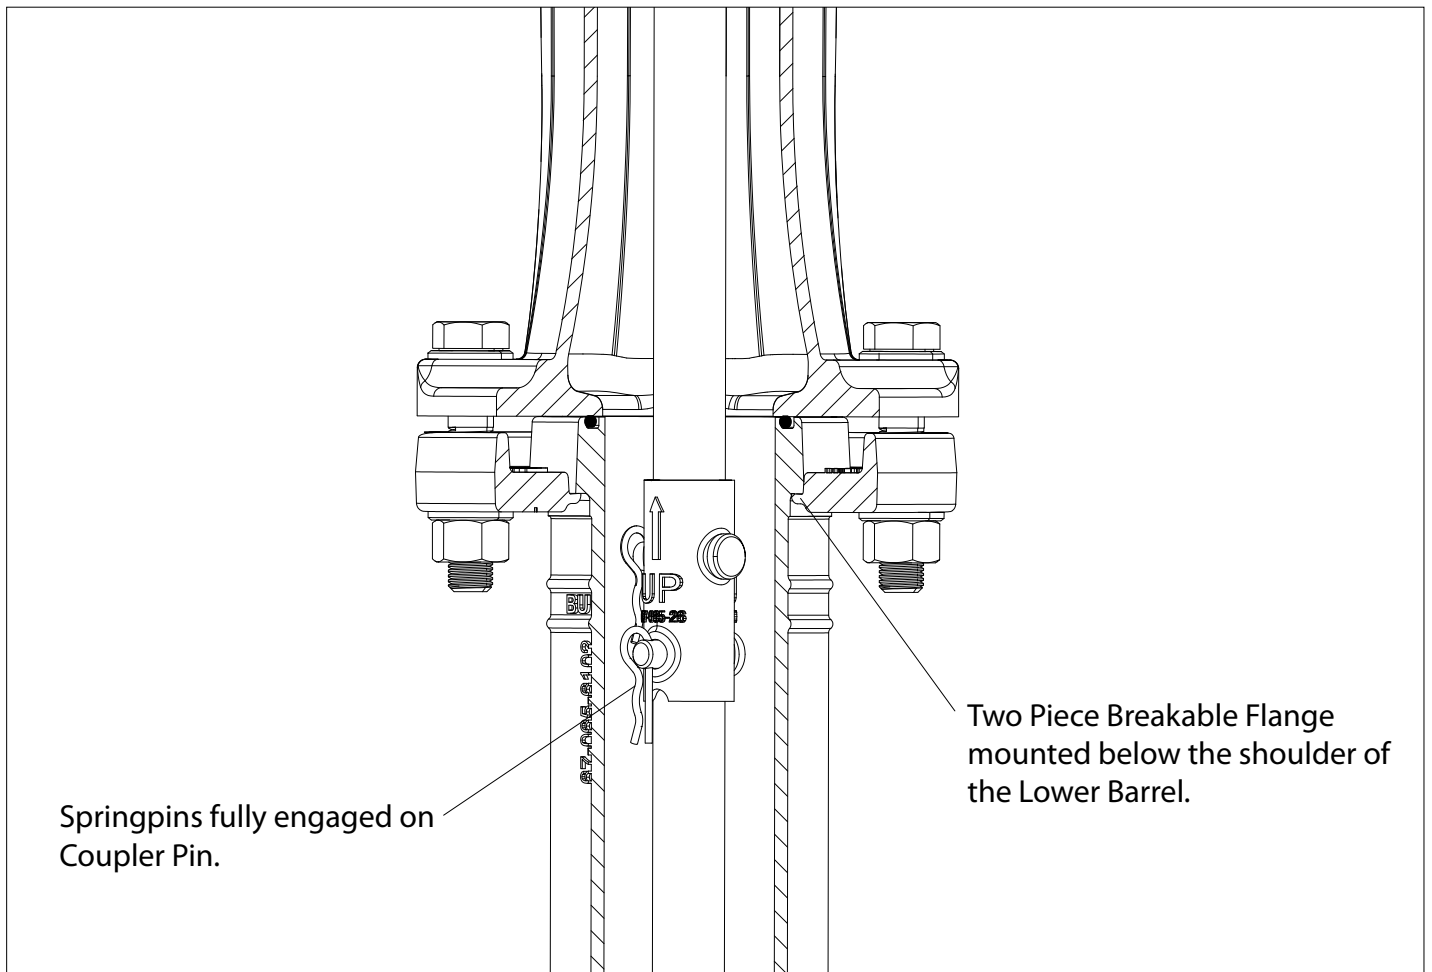

Fig. 15
5. Attach the new Breakable Coupling (F508), to the Upper Stem Rod with a new Coupler Pin and Springpin. Ensure the Springpin is fully engaged onto the Coupler Pin. See (Fig. 15).
10. Secure the Two Piece Breakable Flange as shown in (Fig. 15), with the text "This Side Up", with the lip of the Breakable Flange below the shoulder of the Lower Barrel.